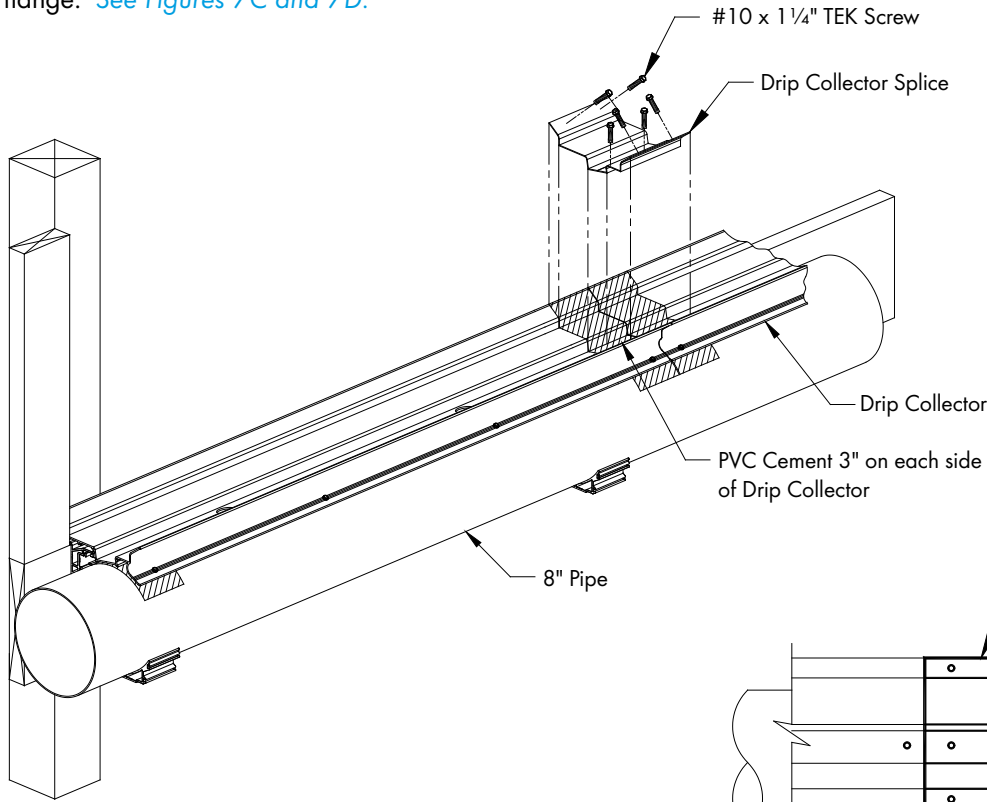

Figure 7C
Prime and PVC cement Drip Collector 3" on each side of joint. Center Splice over joint in Drip Collector and fasten in place using (6) #10 x 1 1/4" TEK Screws. Locate (2) in bottom of Splice and (2) on each flange. See Figures 7C and 7D.